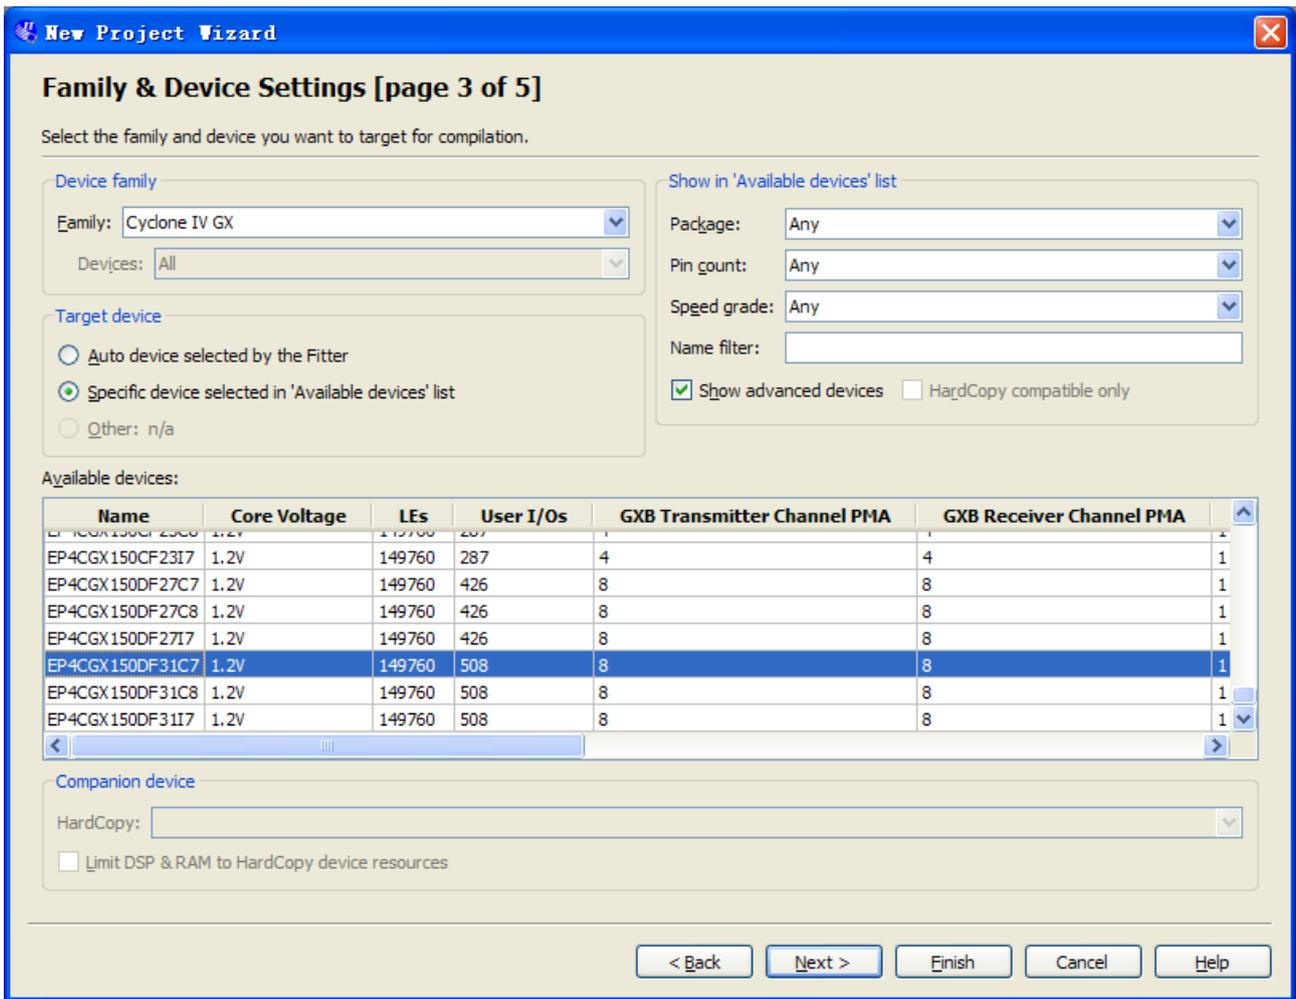
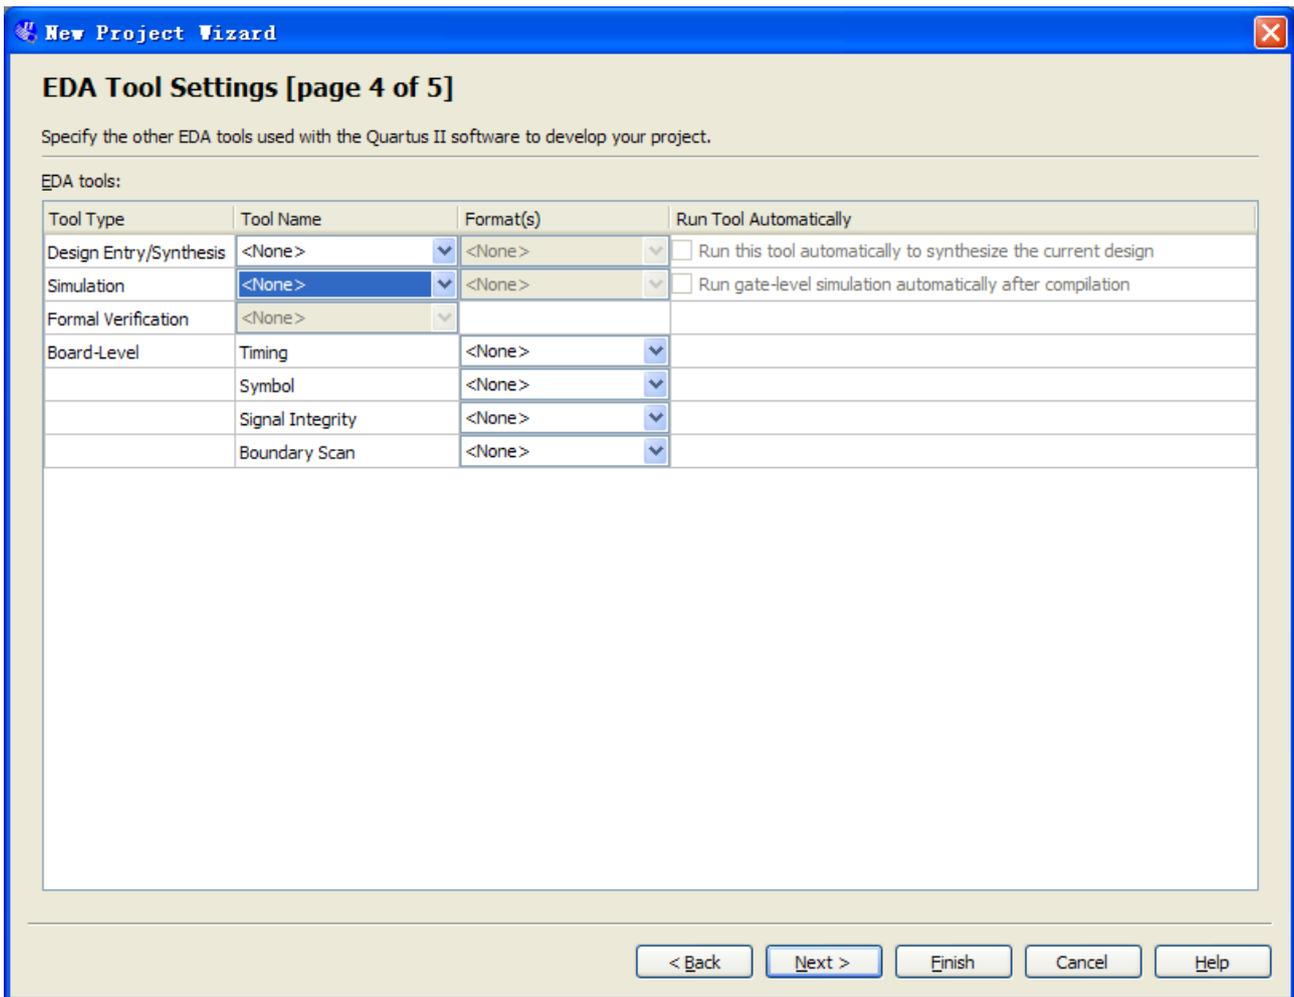

Figure 1-5 New Project Wizard: Family & Device Settings [page 3 of 5]
Figure 1-6 New Project Wizard: EDA Tool Settings [page 4 of 5]
3. Click **Next** to next window. We choose device family and device settings. You should choose settings the same as the Figure 1-5. Then click **Next** to next window as shown in Figure 1-6.